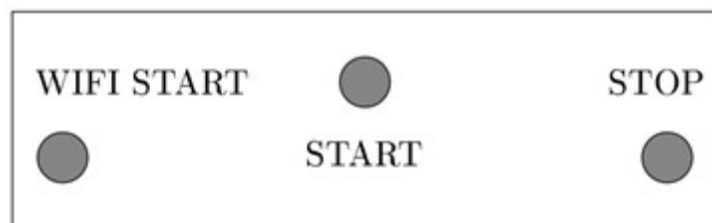

Figure 10 Buttons of the control panel
- When the OK LED is lit, you may press SD START on the control panel located on the side of the instrument box (see Figure 10). Use the provided magnetic stick to operate the buttons. Once pressed, the OK led starts blinking once every 4 seconds to indicate that the data collection has been started. A few minutes later the OK led turns off to conserve battery.